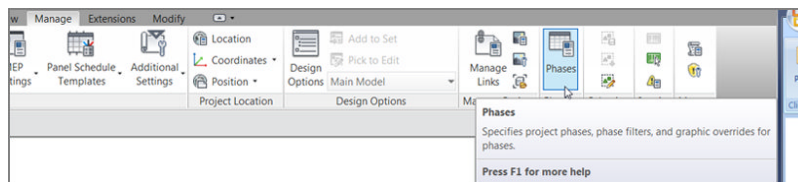

FIGURE 21.1: Clicking the Phases button
1. On the Manage tab, click the Phases button on the Phasing panel, as shown in Figure 21.1.